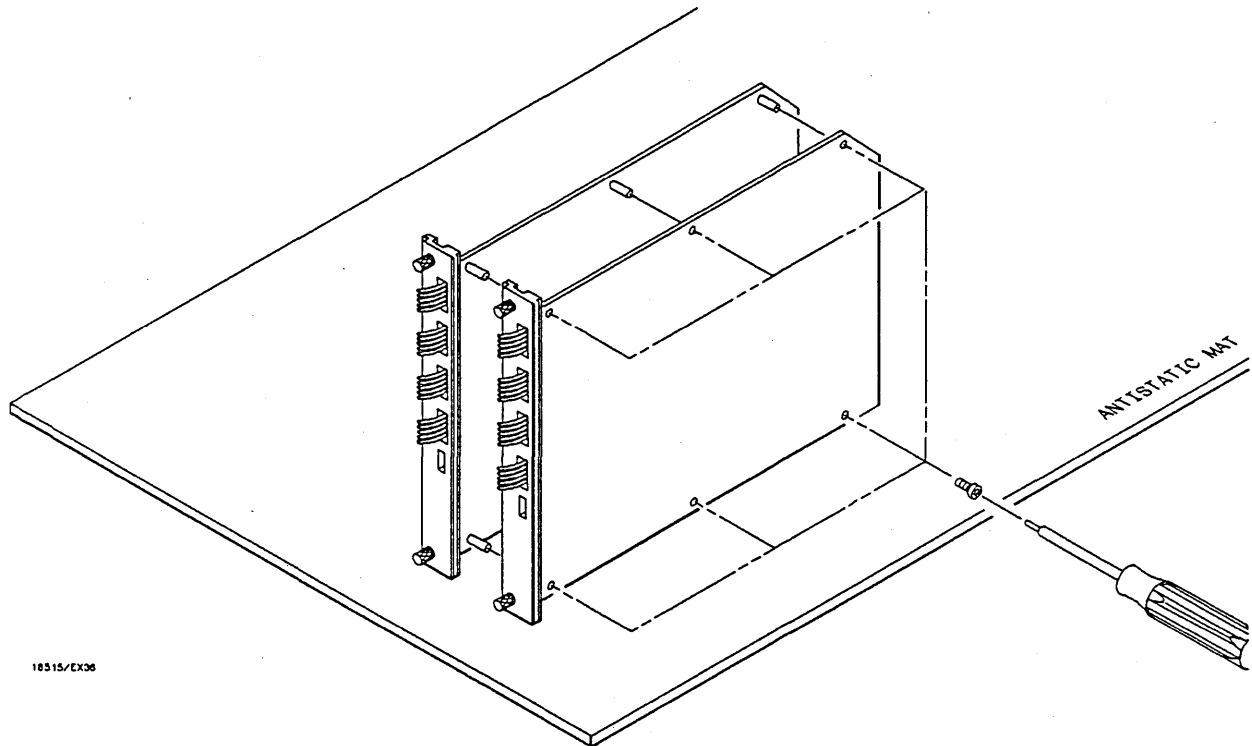

Figure 6-26. Screw Removal
6. If this is a two card module disconnect intercard cable and using a No. 10 torx ®, remove the six (6) screws holding cards together. See figure 6-26.